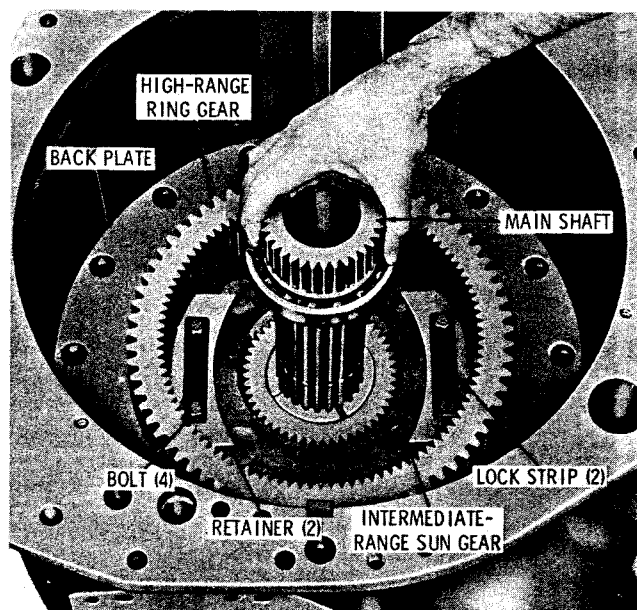

Fig. 5-34. Removing transmission main shaft
(8) Remove the transmission main shaft (fig. 5-34). Remove the ball bearing from the main shaft only if replacement is necessary.
(9) Remove the intermediate-range sun gear (fig. 5-34).
(10) Flatten the corners of the two lock strips. Remove four bolts, two lock strips and two retainers (fig. 5-34). Remove the high-range ring gear.
(11) Remove the intermediate-and-reverse range clutch back plate (fig. 5-34).